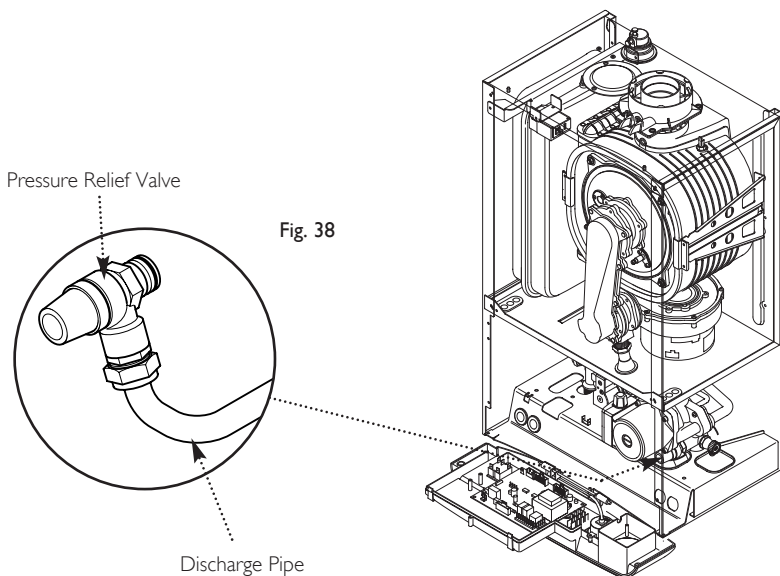

Fig. 38
10.4 Fitting the Safety Pressure Relief Discharge Pipe (Fig. 38)